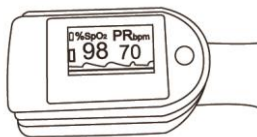

Figure 7 Put finger in position
1. The finger should be placed properly (see the attached illustration of this manual, Figure 7), or else it may cause inaccurate measurement.
- 2) Open the clip as shown in Figure 7.